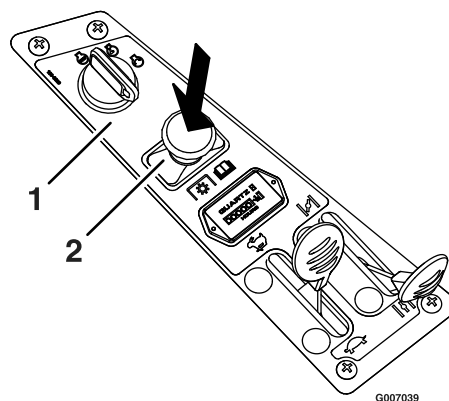

Figure 13
Set throttle to midway position. Push the blade control switch to Off to disengage the blades (Figure 13).
2. Disengage the blades by moving the blade control switch to Off (Figure 13).